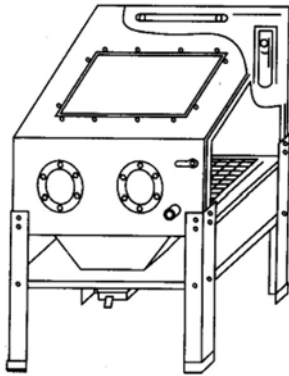

Fig. 7: Mounting intermediate floor
Step 7: Screw the intermediate floor with the enclosed M6x12 screws, spacer and nuts on the legs of the cabin at half height. (Fig. 7).